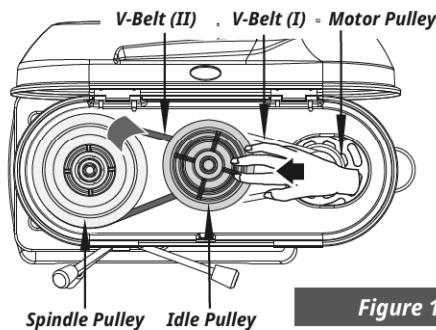

Figure 11
5. Remove the V-belt (I) between idle pulley and motor pulley first, then slide idle pulley towards the spindle pulley to release the load on the V-belt (II) between idle pulley and spindle pulley. Remove V-belt (II). (See Figure 11)